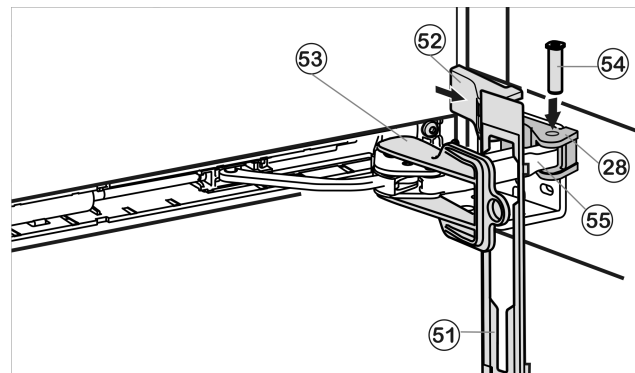

Fig. 24
- Hook panel *Fig. 24 (51)* into the damper bracket such that the detent hooks are pointing forward and the front side is facing the appliance.
- Pull damper bracket *Fig. 24 (55)* towards bearing part *Fig. 24 (28)* and insert bolt *Fig. 24 (54)* from above such that the square is resting in the recess.
- Place cover *Fig. 24 (52)* on top and snap into place.
- Remove locking device *Fig. 24 (53)* by twisting it.
- Snap panel *Fig. 24 (51)* into place on the door.